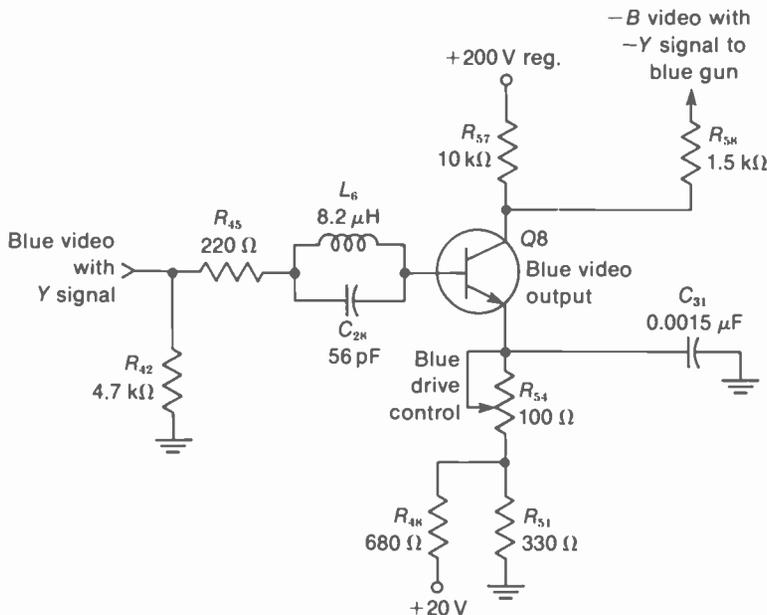

FIGURE 17-27 COLOR AMPLIFIER CIRCUIT FOR BLUE VIDEO DRIVE. (FROM MOTOROLA CHASSIS TS938)
**Output stage for blue video signal.** The circuit in Fig. 17-27 amplifies the blue signal, with two more identical stages used for red and green